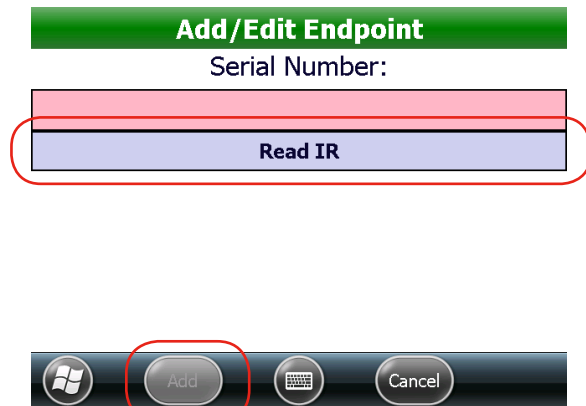

Figure 16: Read endpoint via IR
Result: The Add/Edit Endpoint screen opens with the Serial Number field highlighted as shown in Figure 16.
5. Tap the **Read IR** button (Figure 16).